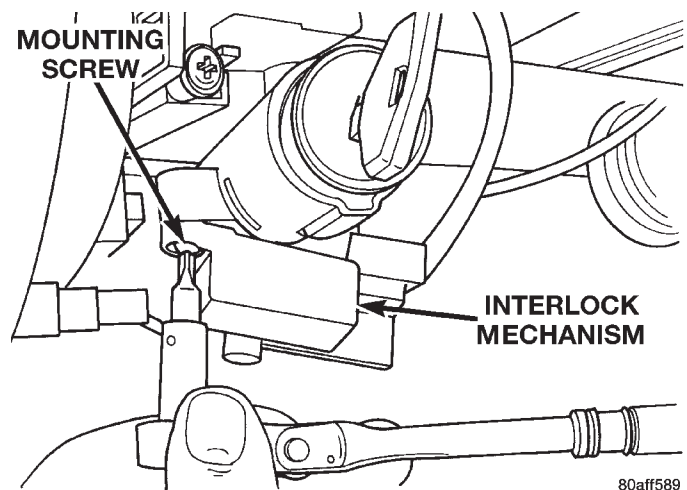

Fig. 29 Interlock Mechanism
- (1) Remove the lower column covers, knee bolster and shrouds. Refer to Interlock Cable Replacement.
- (2) Grasp the interlock cable and connector firmly. Remove the interlock cable.
- (3) Remove the two interlock mechanism to steering column attaching screws (Fig. 29). Remove the interlock housing.